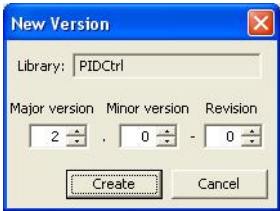

Figure 409. New Version Dialog Box
- Select the predecessor object (below the Library object) and open the Library Version Definition aspect. Click **New Version** under the General tab. A New Version dialog box will appear where you confirm the new version number. See Figure 409. Click **Create**.